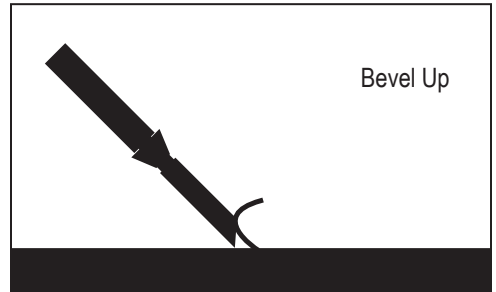
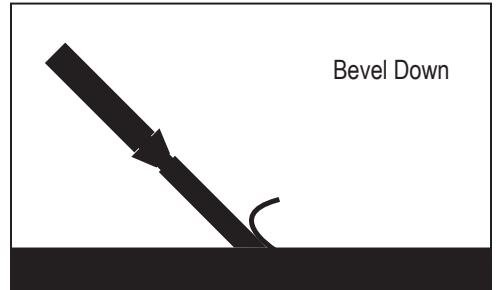

FIG. 8
FIG. 8.1
- Normally, bevel on blade is up for concrete (Figure 8); bevel down for wood (Figure 8.1)